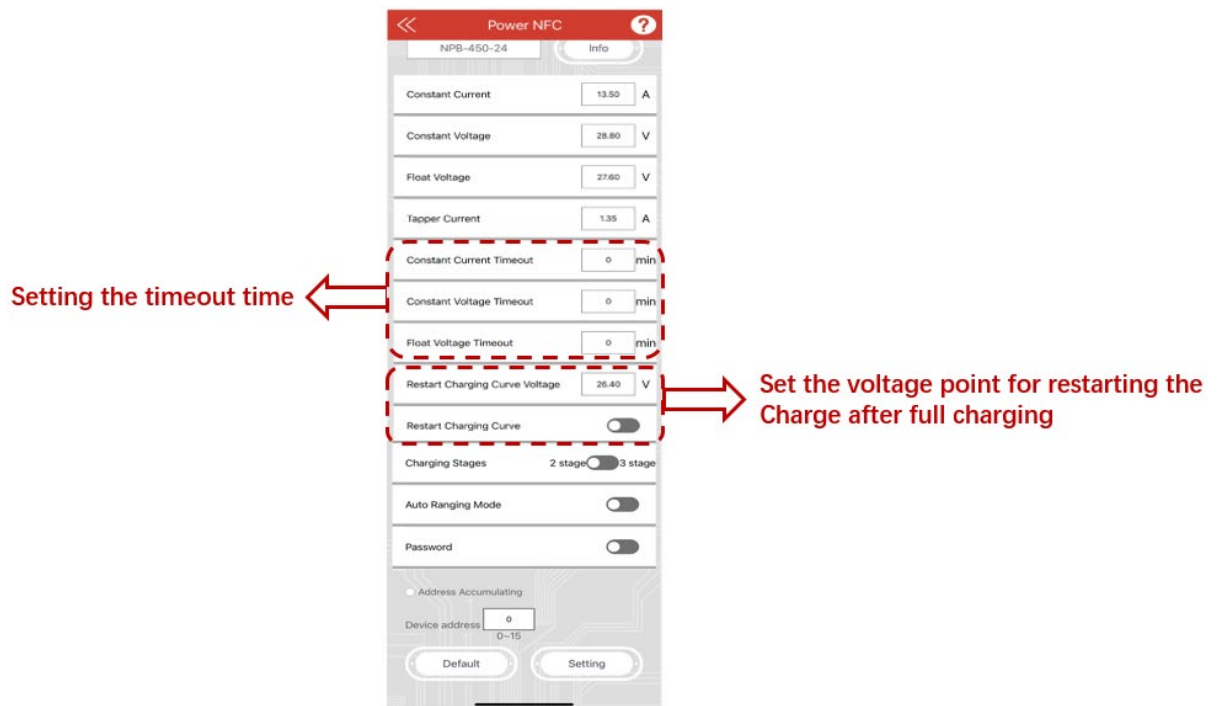

Figure 2. NFC setting interface
As shown in Figure 2, in addition to the basic parameters such as constant current (CC), constant voltage (CV), float voltage (FV), and taper current (TC) that can be set through the mobile app interface, there are also options to set the charging curve timeout function and the reactivation of charging after reaching full charge.